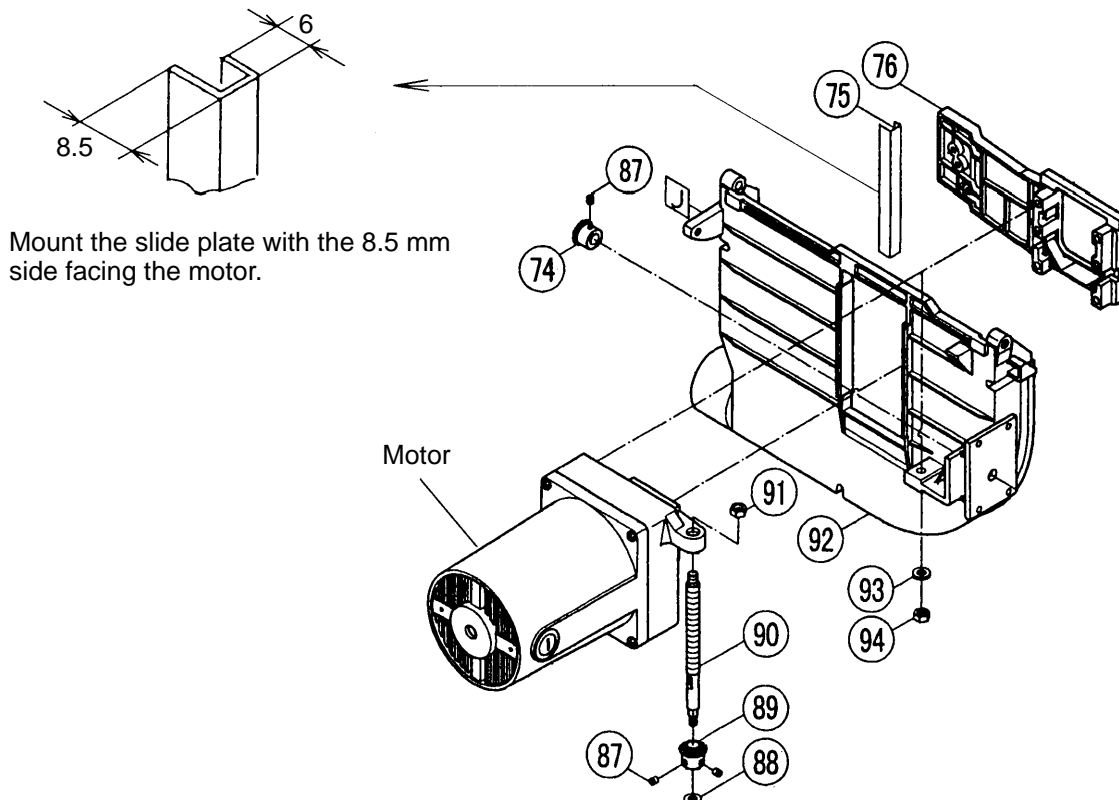

Fig. 29
(4) When assembling the Slide Plate [75], see Fig. 29 for the direction in which it is mounted on the Body [92].